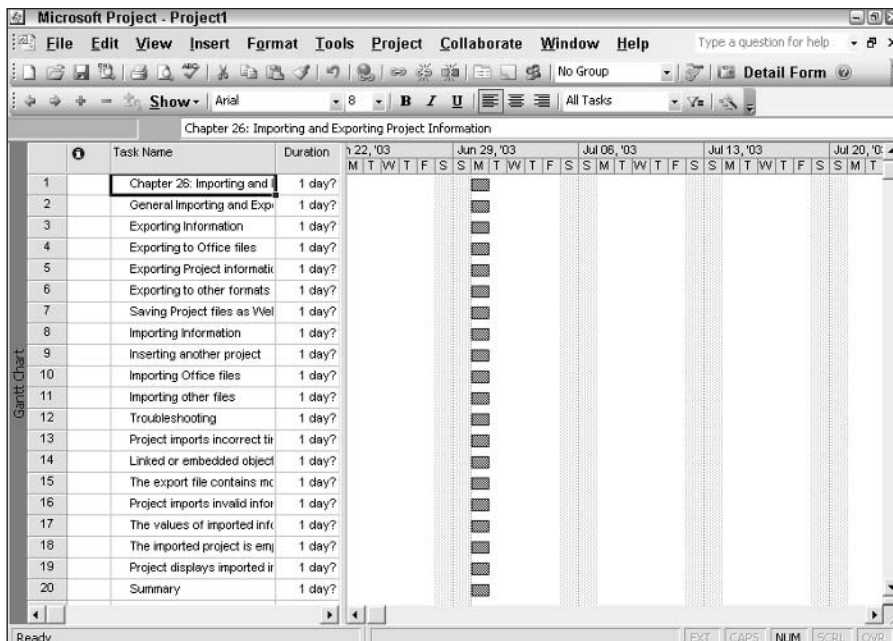

Figure 26-28: The information from the Word document appears in Project.
7. Click the Paste button on the Standard toolbar. The information that is stored on the Windows clipboard appears in the Project table, as shown in Figure 26-28.